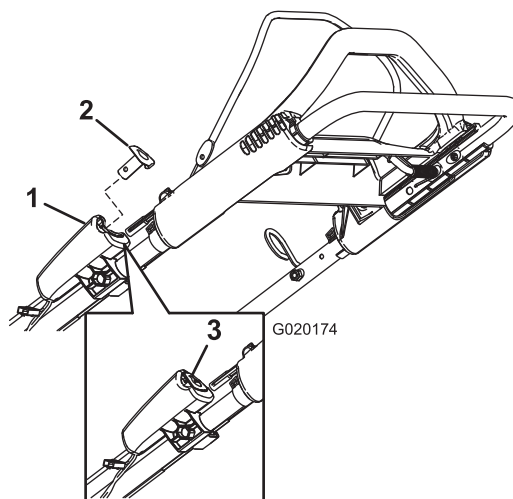
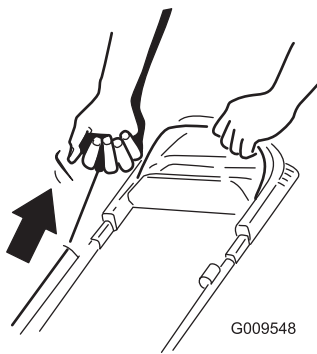

Figure 12
Figure 13
2. Push the electric-start button (Figure 12) (electric-start model only) or pull the recoil start handle (Figure 13).
Note: If the electric-start button has been removed, insert it in the electric starter; refer to Figure 12 (electric-start model only).
Note: When you pull the recoil start handle, pull it lightly until you feel resistance, then pull it sharply (Figure 13). Allow the rope to return to the handle slowly.